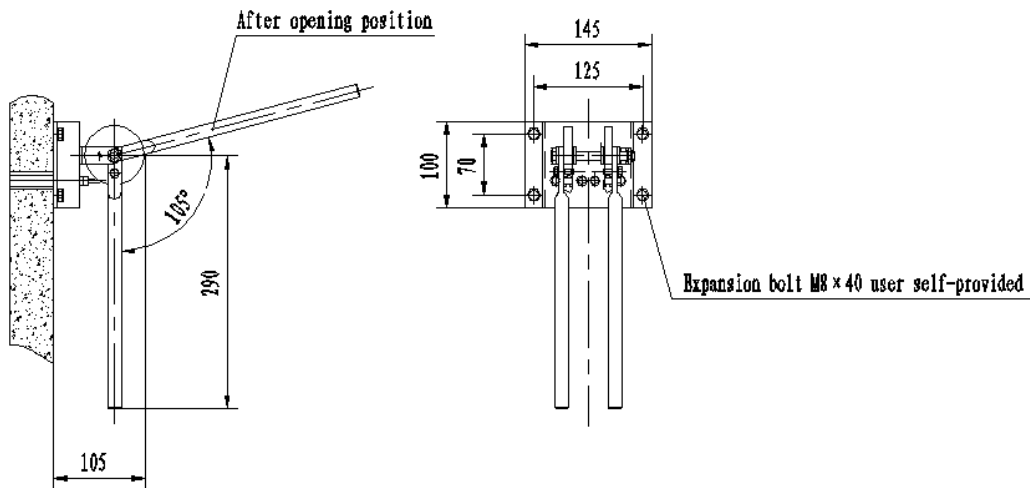

Fig.1.10
1)The two loose hose lines 4 are respectively passed through the traverse holes of the mounting plate 3 and are respectively mounted on wheel 2 which has been fixed to the mounting plate. The relative position of wheel 2 and handle 1 when installed as shown in fig. 1.10 ensures that wheel 2 is inside the handle 1, Only in this way can the rope slot on wheel 2 correspond to the crossing hole of mounting plate 3. After installing the loose gate hose line 4, lock wheel 2 and handle 1 with the bolt of $M6 \times 20$;